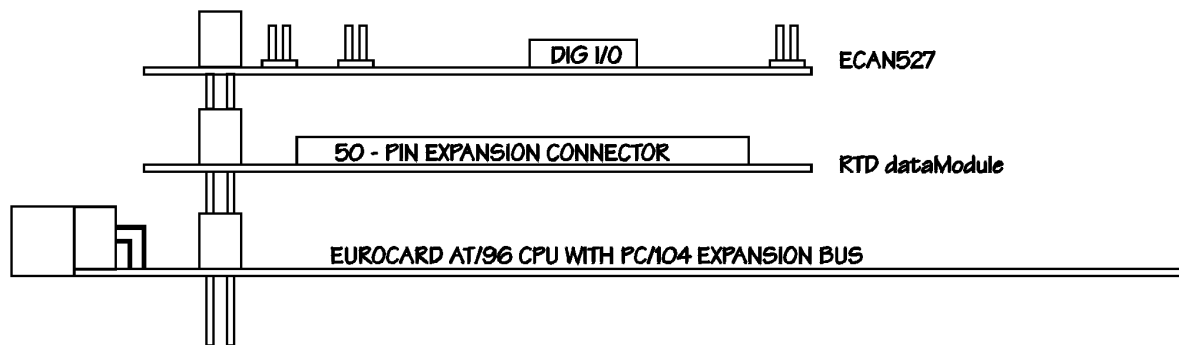

Fig. 2-2 19" Eurocard rack installation with an integrated PC/104 dataModule and EUROCARD cpuModule computer system
* The PC/104 system can easily be inserted into a 19" rack installation using the CPU as a "form factor adapter". Assemble your PC/104 data modules on a RTD single board computer and install the system in an 19" enclosure. Multiple ECAN527HR boards can easily be connected to this system. See figure 2-2 below.